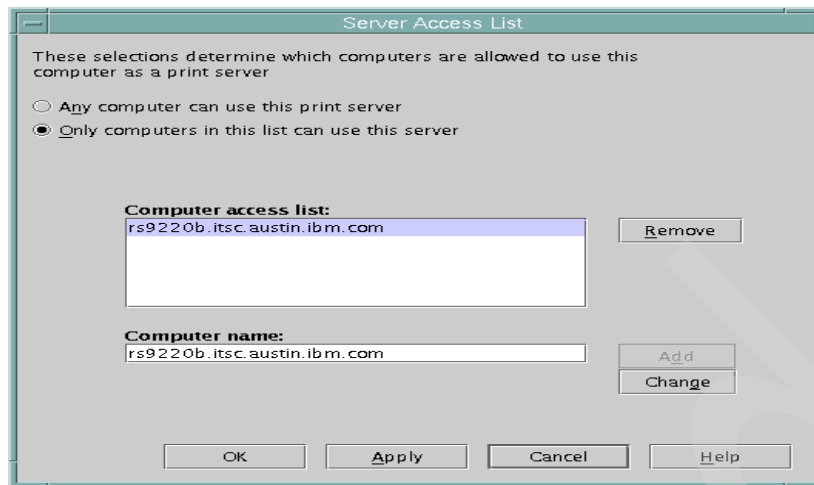

Figure 68. Removing access for a remote system
- To remove access for a remote system, highlight that system's name in the first field (labeled Computer access list:) and click on the **Remove** button to the right of that box, as shown in Figure 68 on page 287.